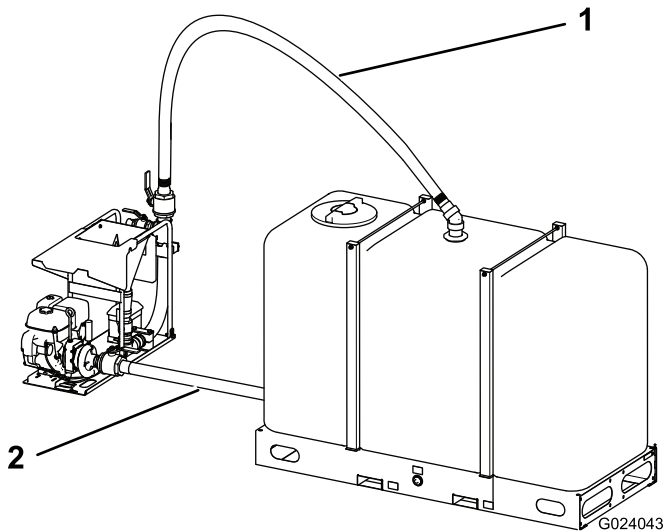
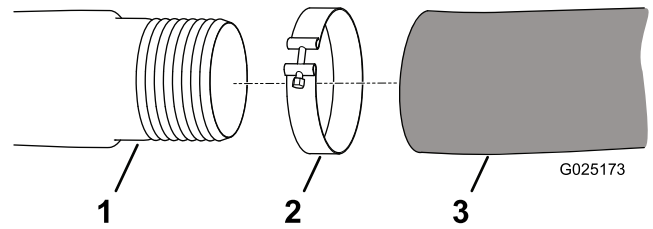
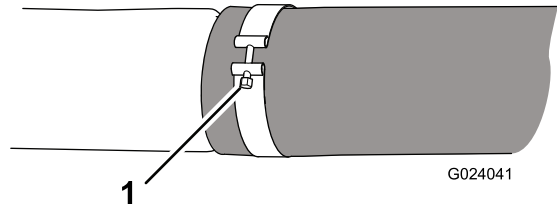

Figure 6
Figure 7
Figure 8
2. Use a hose clamp (provided) to connect the loose end of the hose to the pump inlet on the mixer as shown in Figure 6, Figure 7, and Figure 8.
4. Use 2 hose clamps (provided) to connect the other hose to the top of the tank and the top of the mixer as shown in Figure 6, Figure 7, and Figure 8.